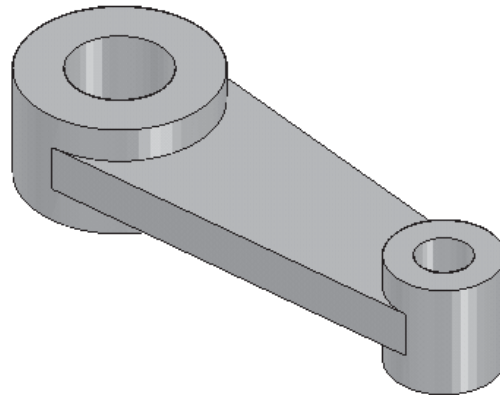

Figure 4-70 Model after creating the feature
- Create the second feature also on the x-y plane, refer to Figure 4-70.
4. Exit the sketching environment and then extrude the sketch symmetrically through a distance of 10 units. The model, after creating this feature, is shown in Figure 4-70.